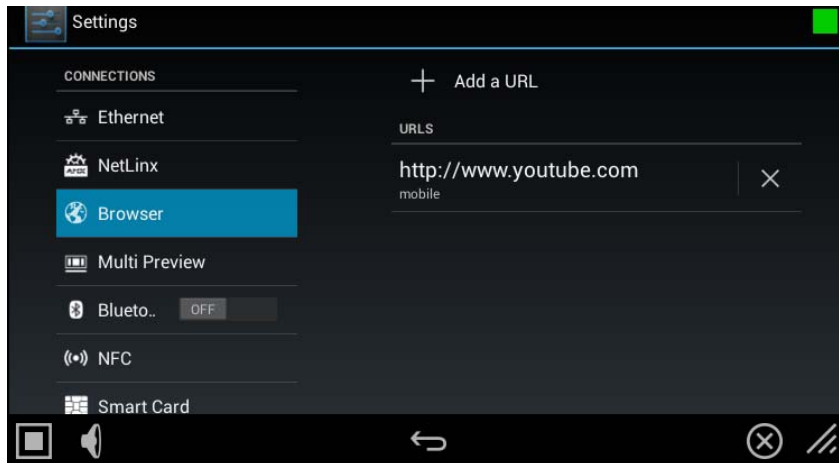

FIG. 68 Browser page
The options in the *Browser* page of the Settings menu (FIG. 68) allow you to specify the *default view mode* for specific URLs, when they are opened in a "Browser" application window. The view mode options are "desktop" and "mobile", and the default mode is "mobile".
1. From the *Browser* page, press *Add a URL* (see FIG. 68 on page 50) to open the *Enter URL* window (FIG. 69):
To toggle the 'desktop' or 'mobile' setting for any URL in the list, simply press a URL in the list (see FIG. 68 on page 50). The current content setting is indicated beneath each URL in the list (FIG. 70):